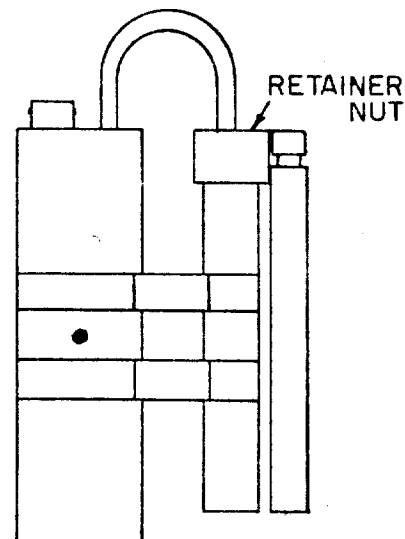

FIGURE 4-5. POSITION .5
STEP 9. Turn the range switch to the .5 position. Place the test sample parallel with the small cylinder on the side directly opposite the larger cylinder with the active end even with the top of the retainer nut, as shown in Figure 4-5. The meter should read between .25 and .4.